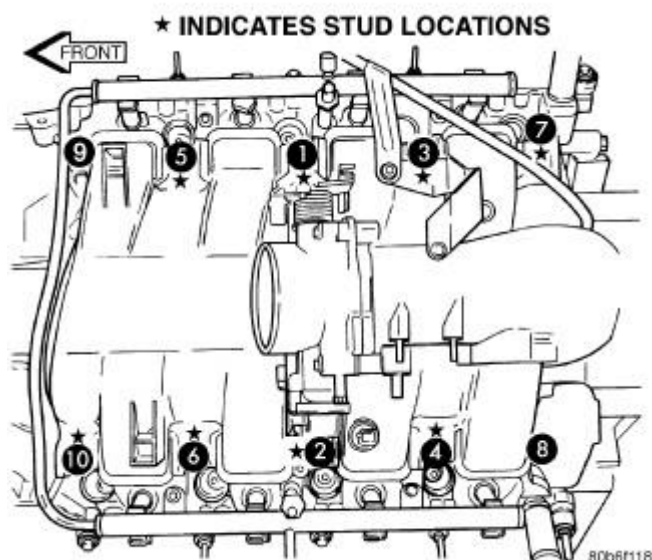

Fig. 244: Intake Manifold Tightening Sequence
3. Install intake manifold retaining bolts and tighten in sequence shown in **Fig. 244** to 12 N.m (105 in. lbs.).